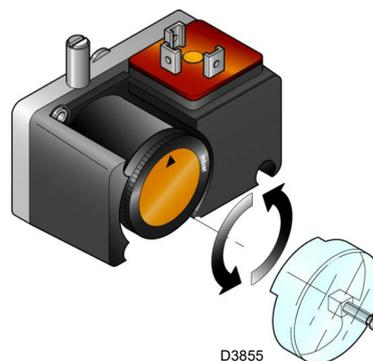

Fig. 32
- Adjust the minimum gas pressure switch (Fig. 32 at page 32) to the start of the scale.
Adjust the minimum gas pressure switch (Fig. 32) after having performed all other burner adjustments with the pressure switch set to the start of the scale.